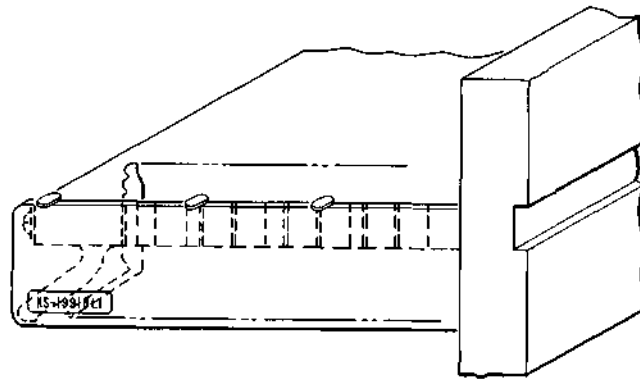

Fig. 33—Method of Mounting KS-19918 L1 Guard on Terminal Strips
16.11 The KS-19918 L1 guard is furnished as a protective device for fastening to the ends of horizontally mounted solderless wrap-type terminal strips, as shown in Fig. 33, on central office distributing frames of miscellaneous switching systems.